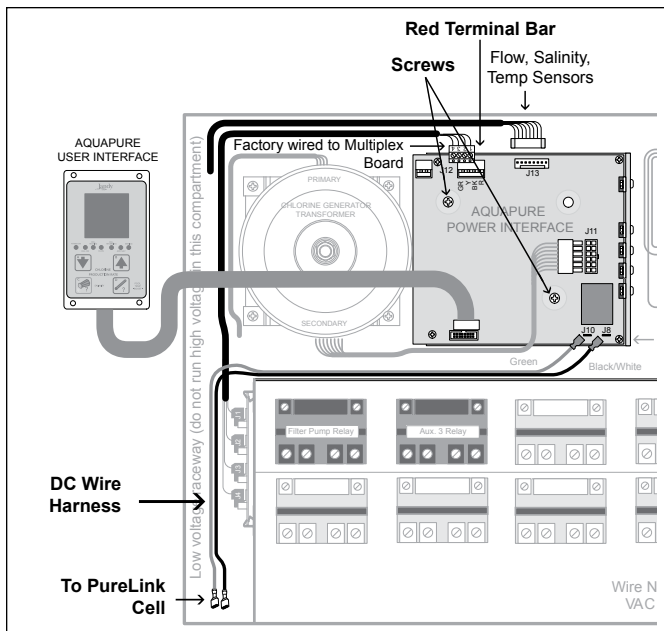

Figure 10. PureLink Power Interface Board and DC Wiring Harness
5. Disconnect the red four-pin connector from the red terminal bar located on the power interface board. See Figure 10.
10. Remove the two (2) center screws that secure the power interface board to the power center can. Remove the power interface board.
4. Disconnect the DC wiring harness from the power interface board. See Figure 10.
6. Carefully disconnect and remove the old harness. See Figure 10.